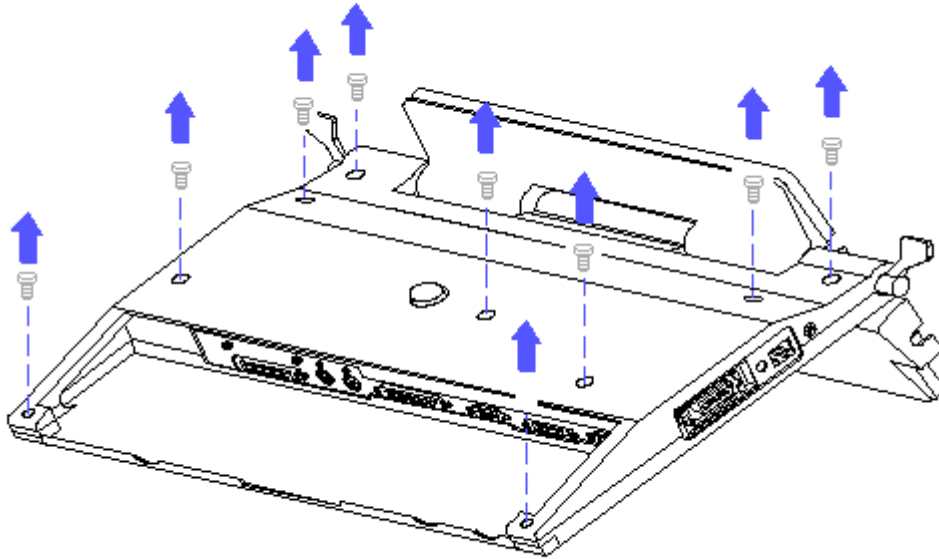

Figure 4-5. Rear Cover Removal and Replacement
2. With the FlexConnect in the raised position, remove the nine screws holding the rear cover in place and remove the rear cover (Figure 4-5).